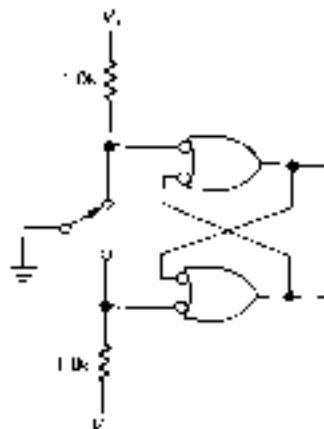

Figure 9.8. Switch debouncer: SR flip-flop.
1. Use a pair of gates to make a jam-type *SR* flip-flop. Use pullups at the inputs to the debouncer, of course (Fig. 9.8). You could use a flip-flop with SET and CLEAR inputs instead (e.g., a '74); in that case, ground the clocking input.